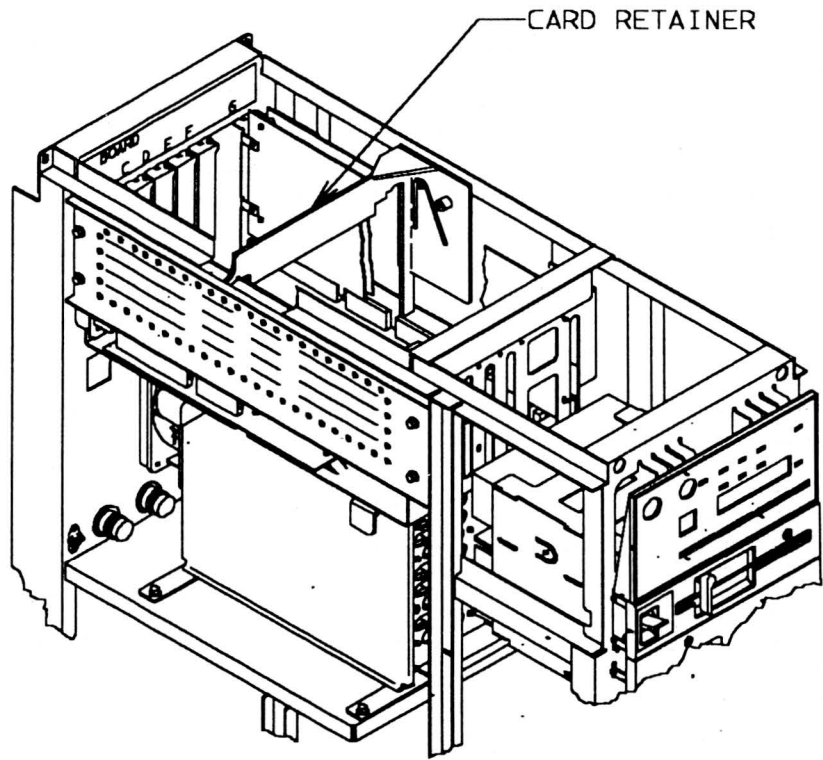

FIGURE 3
10.6.1 Before replacing covers, ensure that B1 Board card retainer is in place as shown in Figure 3.